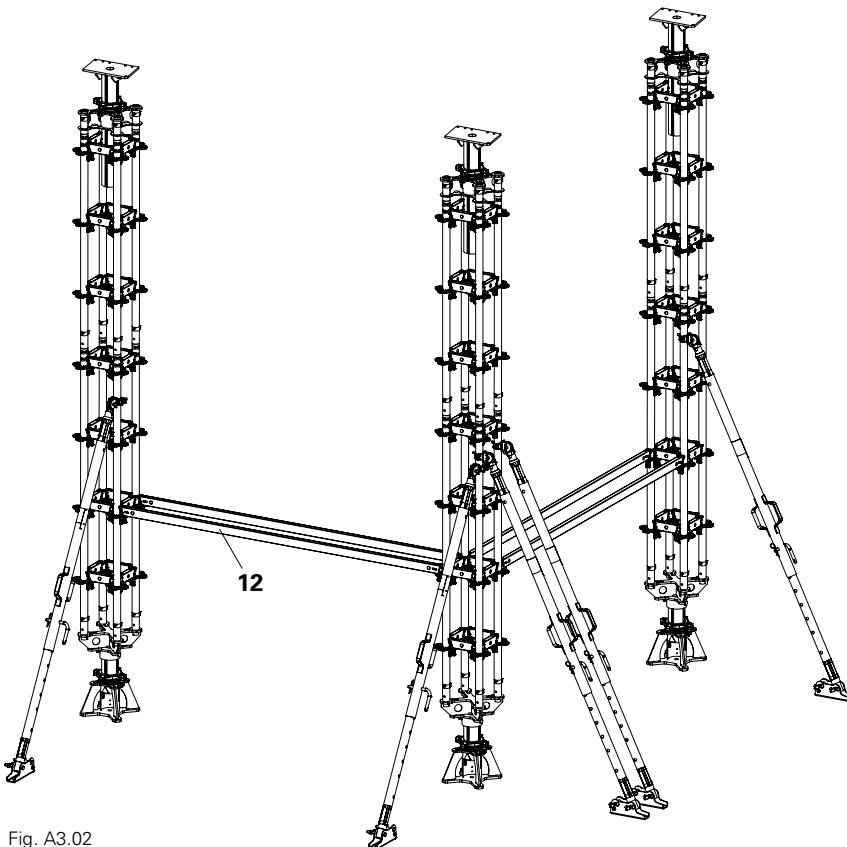

Fig. A3.02
2. Attach the horizontal ledger (12) into the rosettes and knock it tight. (Fig. A3.02)